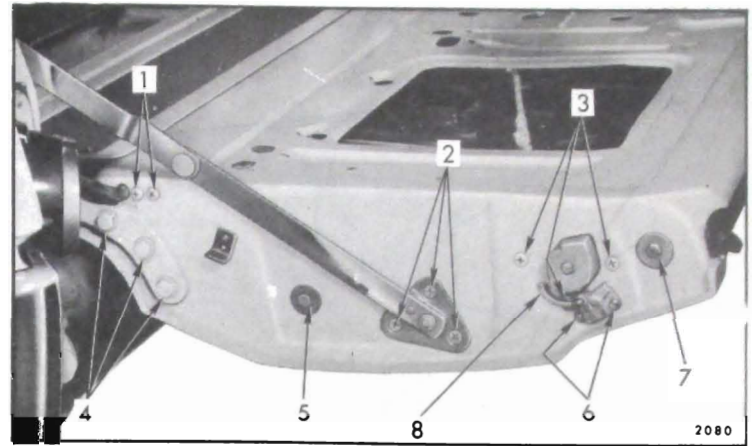
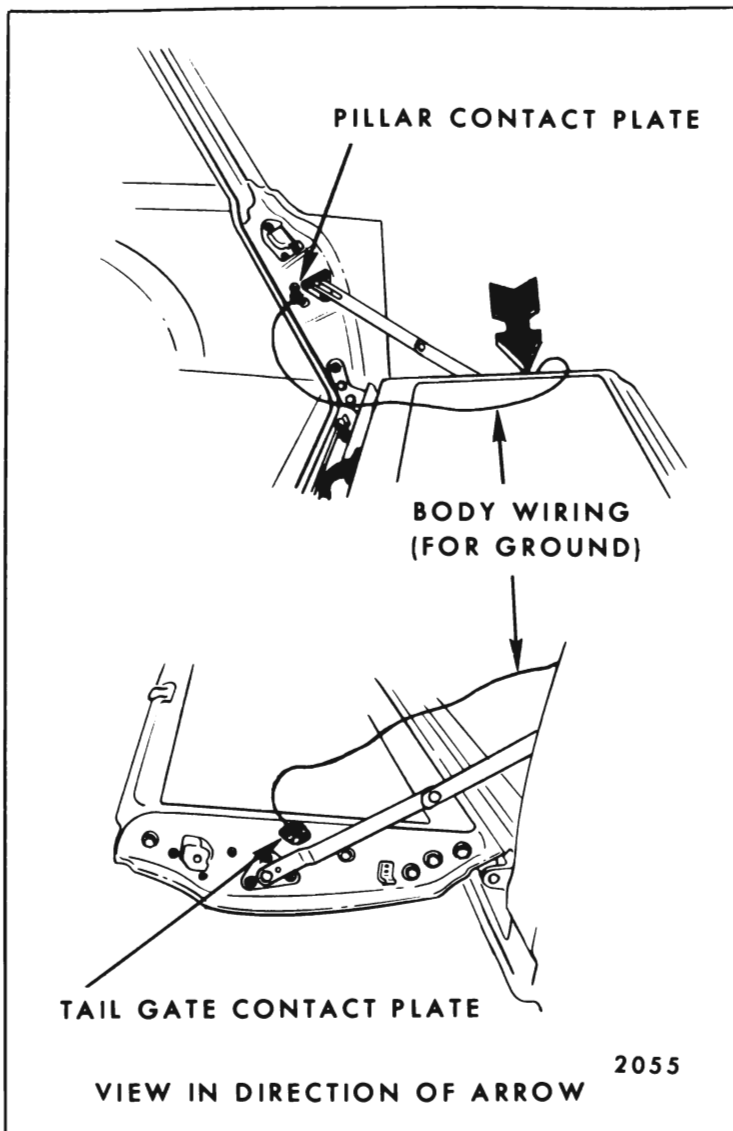

Fig. 9-30—Tail Gate Hardware - Left Side
Fig. 9-36—"X" Body Tail Gate Jamb Switch
4. While properly supporting tail gate, remove right and left support to gate attaching screws and fold supports against body. (See Fig. 9-30.)
5. With the aid of a helper, remove right and left tail gate hinge to gate attaching bolts and remove tail gate from body. (See Fig. 9-30.)
NOTE: On styles equipped with power operated tail gate windows, engage jamb switch and operate window to any position desired. Engaging the tail gate jamb switch, makes it possible to operate the window (by key switch) with gate in the lowered position. This jamb switch is located on the left side of the tail gate on "B" Bodies and the right side for "A & X" Bodies. "B & A" Bodies have a switch of similar design that can be engaged by merely pushing arm with a finger. (See Fig. 9-30.) On "X" Bodies, however, the jamb switch consists of two contact plates, one on gate and one on body pillar. These plates can be engaged with gate open by connecting them with a length of body wire. (See Fig. 9-36.)